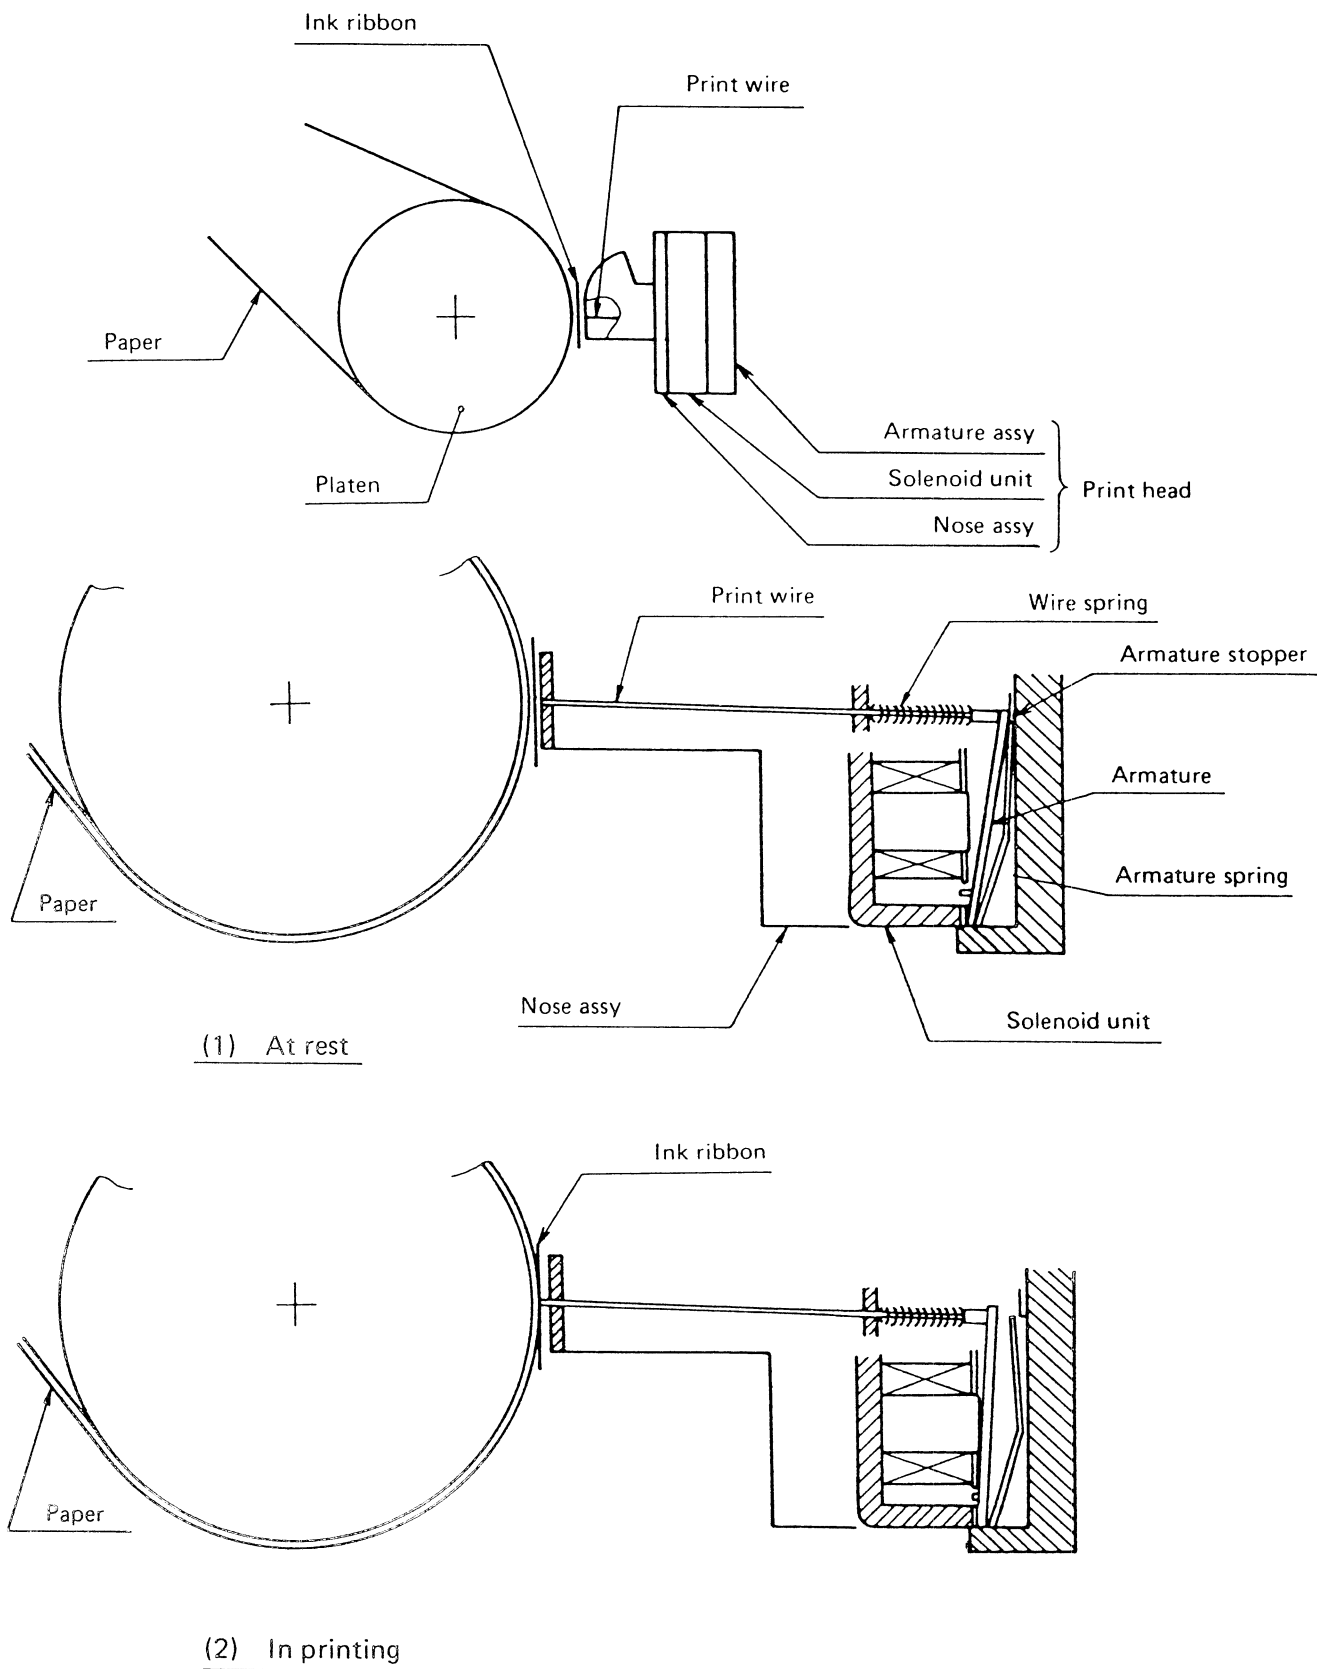

Fig. 1
(1) Operation of print head (see Fig. 1)